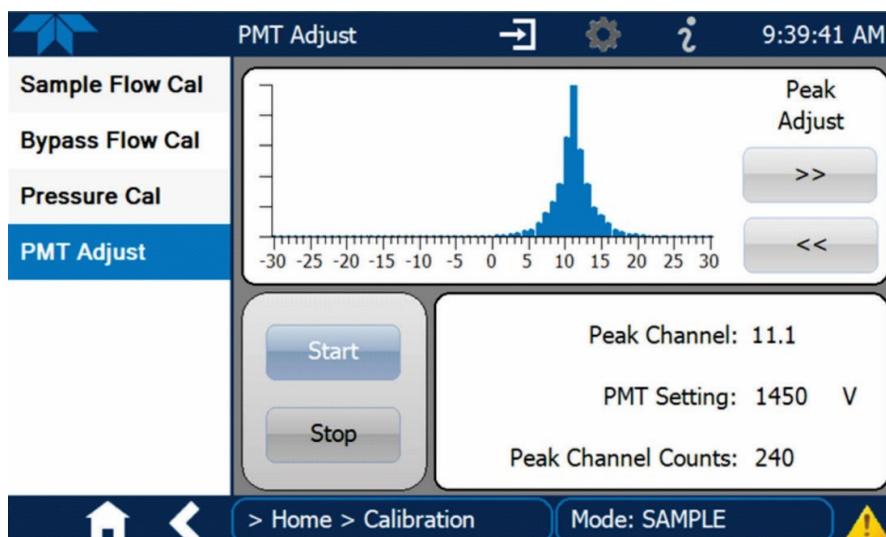

Figure 16. PMT adjust screen.
7. Gently tap the SpanDust™ bottle to barely agitate the contents just enough to allow the dust to be pulled into the sensor, and allow 30 sec for the Peak Channel reading in this screen to respond (Figure 16).